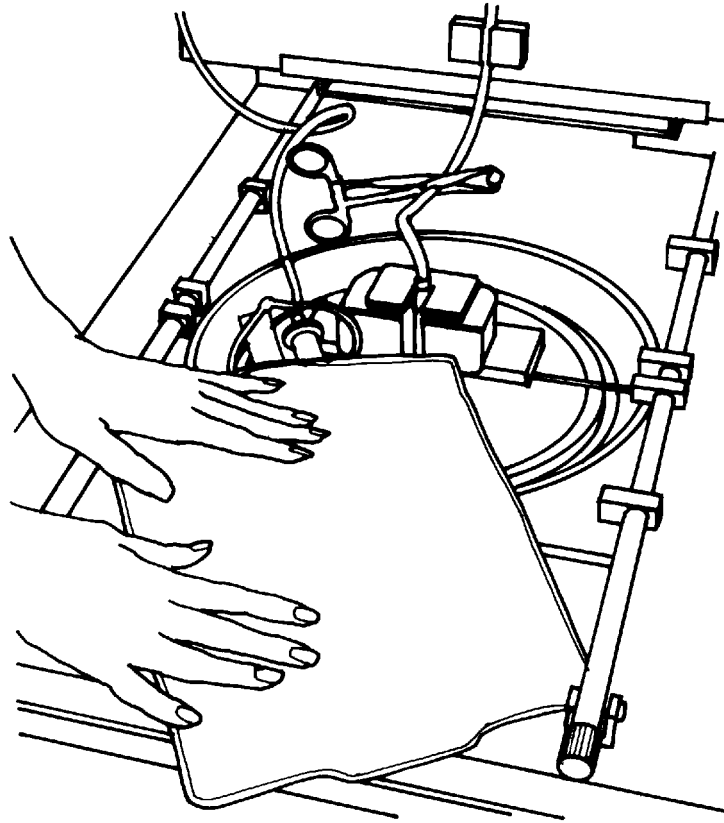

Figure 6-18: Agitating the cell product bag
- 5 Press the BLOOD IN button and open the clamp on the blue-striped tubing. Valve V1 opens, allowing processing/wash solution to flow by gravity from the container connected to the blue-striped tubing to the cell product bag. Manually agitate the cell product bag to ensure adequate mixing (Figure 6-18 on page 6-20).
- d Press the BLOOD IN button. Valve V1 opens, allowing processing/wash solution to flow by gravity into the cell product bag. Manually agitate the cell product bag to ensure adequate mixing (Figure 6-18 on page 6-20).